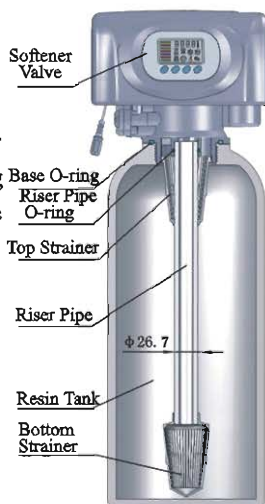

Figure 1-1
a. As the Figure 1-1 shows, select the riser pipe with 26.7mm OD, glue the riser pipe to the bottom strainer and put it into the mineral tank, cut off the exceeding tube out of tank top opening. Plug the riser tube in case of mineral entering.